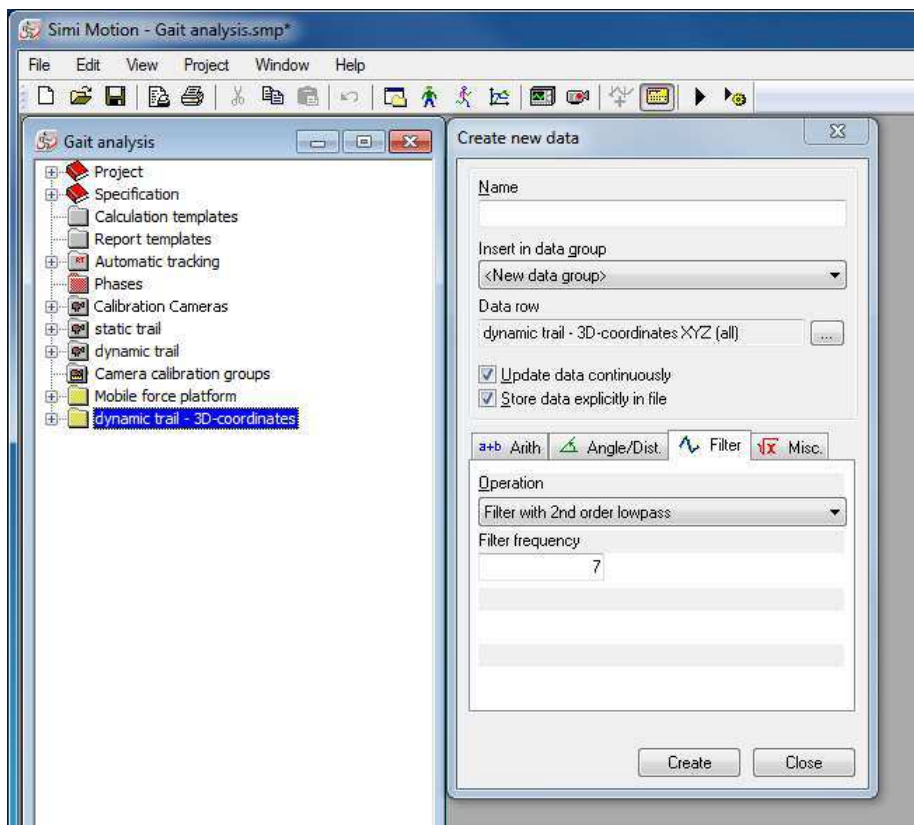

Figure 17.37: Opening of a new data row
- Select via Drag&Drop the desired data, e.g. *Dynamic 3D coordinates* into *Data row* and choose the components *Coordinates (XYZ)* (cf. figure 17.37).